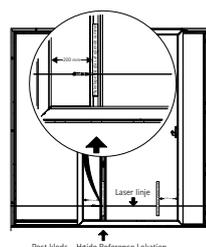

Figure 9: Laser position 1 – mark line on tape at laser height
14. Place vertical masking tape on the glass on both sides of the master sash, centered above the wheels, at a height that intersects the laser beam (200 mm from the end of the aluminium) (figure 9).